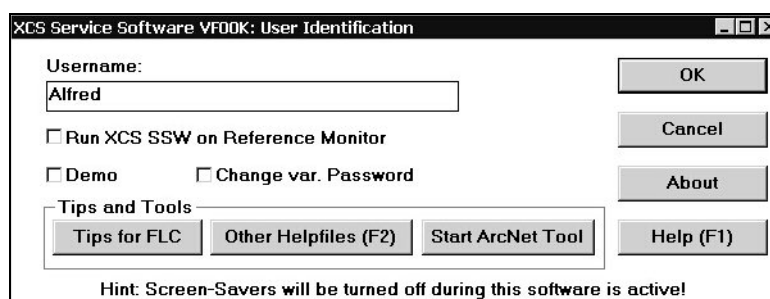

Fig. 7
- Start the XCS-SSW on your service laptop (Fig. 7).